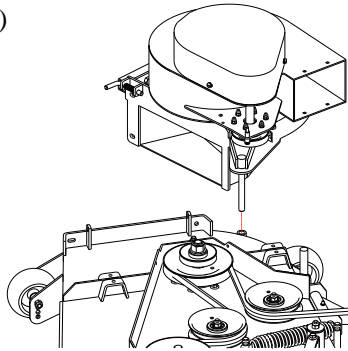

FIG 3
a) Lower blower assembly pin into tube as shown. (FIG 3)